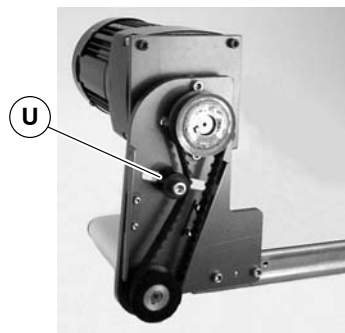

Figure 14
2. Loosen tensioner (U of Figure 14).
5. Loosen tensioner (U of Figure 14).